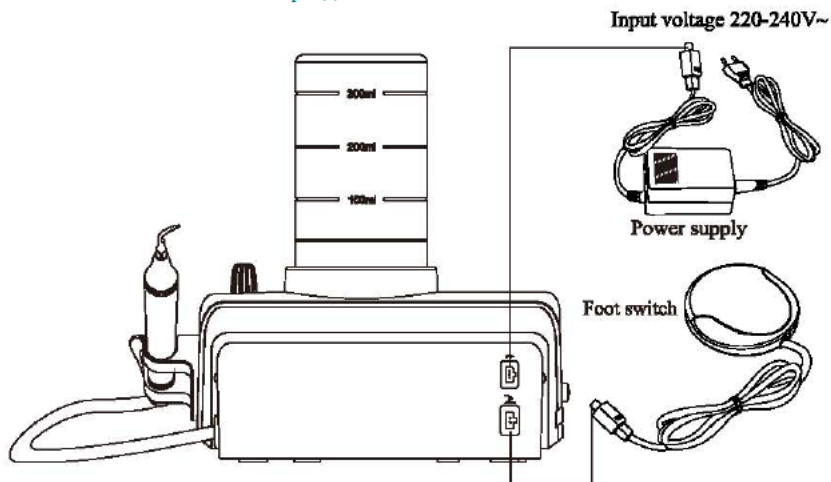

Figure 3
c) Insert the plug of the foot switch to its socket (See Figure 3).